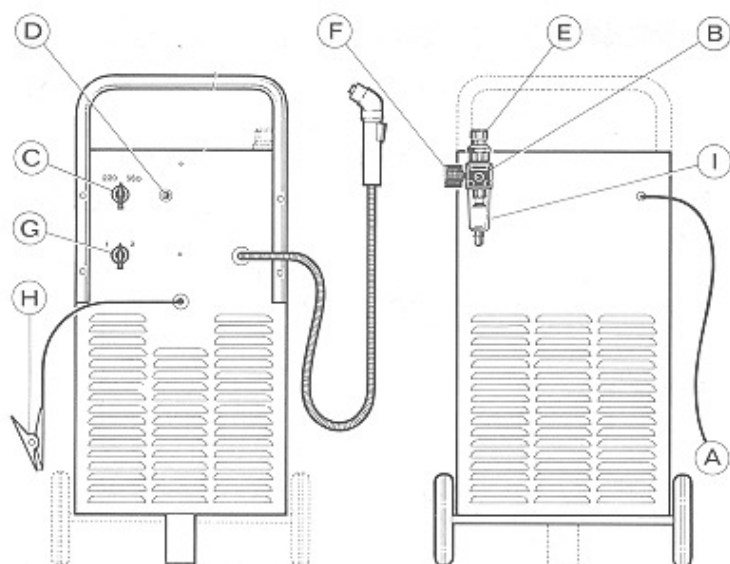

Fig. 2
- knob **G** (Fig. 2) on **1** instead of **2**;
Although the equipment is provided with an automatic device for the discharge of condensate, which functions whenever air feed is shut off, it is recommended that periodical check that no condensate is in the container **I** (Fig. 2) of the pressure regulator.